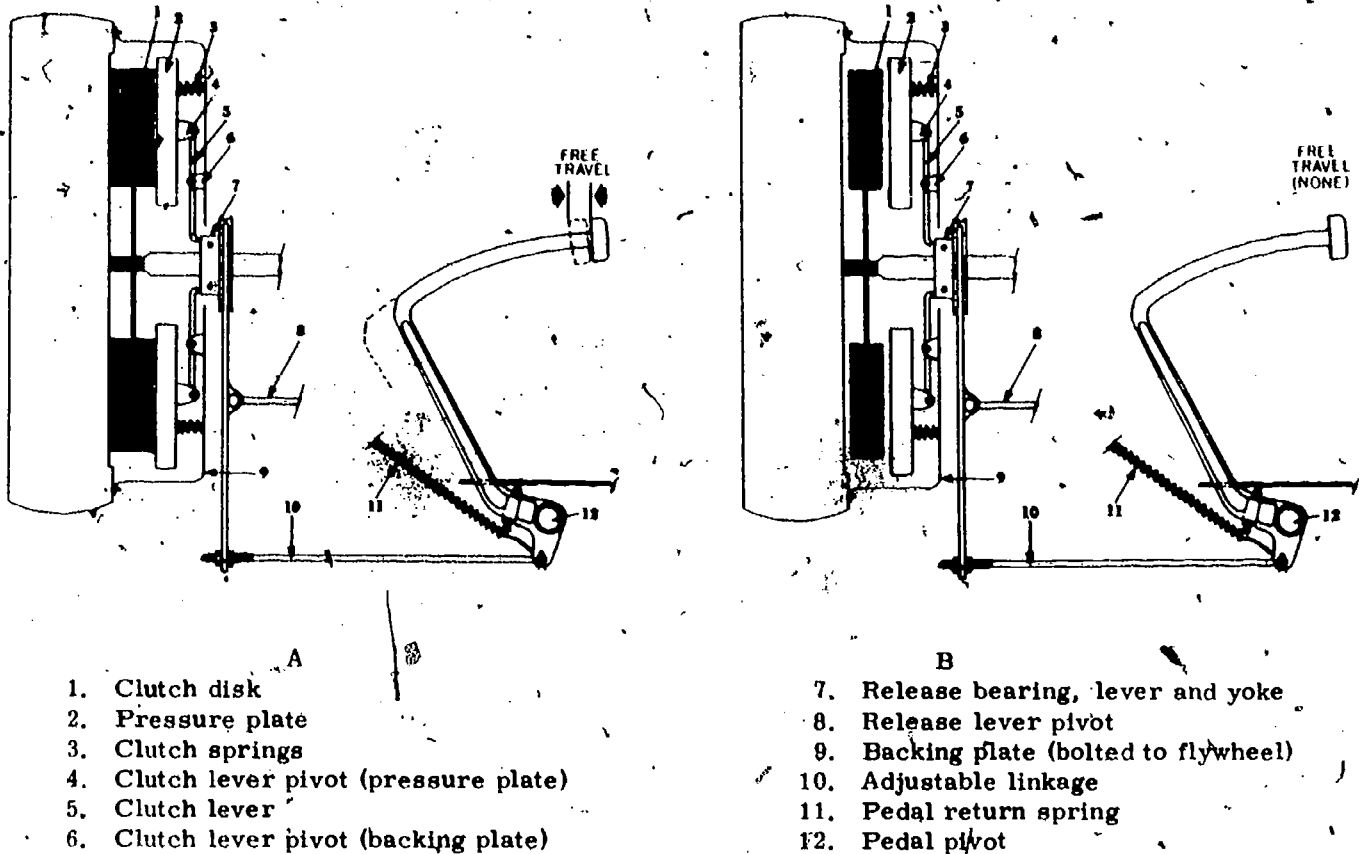

Fig 2-43. Illustration of correct and incorrect clutch pedal free travel.
B. Maintenance. Proper operation and service are the best insurance that an operator will get good service from the clutches on the vehicle assigned. Like all mechanical parts, the clutch will wear. However, the rate of wear decreases when serviced and used properly. The rate of wear is very slow on a clutch that has been properly lubricated and properly used. If it is not lubricated, the lubricant will get on the parts that should not be lubricated. If it is not lubricated, the bearings will wear rapidly. If lubricants get on the friction surfaces (item 1, figure 2-43 A and B) of the clutch plate, it will slip causing rapid wear, overheating, and other clutch problems. Resting your foot on the clutch pedal or partially engaging the snap over center clutch control lever will cause the release bearing (item 7, fig 2-43) to contact the clutch levers (item 5, fig 2-43). This will partially disengage the clutch causing it to slip and cause the clutch disk, release bearing, and levers to wear more rapidly. An improperly adjusted clutch is about the same as resting your foot on the clutch pedal; the free travel is not enough to allow the release bearing to move back away from the clutch levers so that the clutch springs (item 3, fig 2-43) can force the pressure plate (item 2, fig 2-43) against the clutch plate. As stated previously, the clutch disk will wear; as it wears, the free travel decreases to the point that the clutch fails to fully engage. Study figure 2-43A and 2-43B and visualize how the clutch is engaged and disengaged through the linkage. Pay particular attention to the levers, their pivot points, the direction of travel on each side of the pivot, and the parts that must move or come in contact. Note the pedal and its pivot point (12) and visualize the direction the linkage will travel when the pedal is depressed and when released. Note how the linkage (10) is connected to the lever and the yoke to the release bearing (7); visualize the direction that the release bearing will move and that the lever pivots (8) when the pedal and linkage are moved. Note the clutch levers (5) in the clutch assembly, how they connect to the pressure plate (2), and how they pivot (6) when moved from the clutch disk (1) wear or when contacted by the release bearing. Visualize how the distance between the flywheel and the pressure plate can decrease as the clutch disk wears. This will allow the pressure plate to move closer to the flywheel, moving the clutch levers attached to it, causing them to pivot and the free ends to move closer to the release bearing. When the free ends contact the release bearing, there is no free travel at the clutch pedal. As long as there is sufficient free travel and the clutch is properly used and serviced, the clutch springs (3) will force the pressure plate toward the flywheel and squeeze the clutch disk. Note how the pressure plate is held back in figure 2-43B because there is insufficient clutch pedal free travel. It must be emphasized that some clutches are different from the simple linkage illustrated in figure 2-43, but the principles are the same. By studying illustrations and information in the TM's, you can determine the correct amount of free travel and where to make the adjustment.